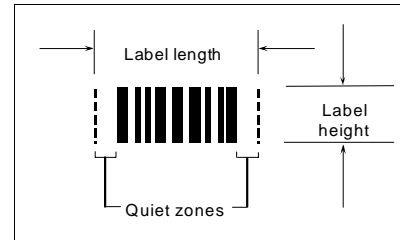

Figure A-8 Label Dimension
- **Scan Rate (SR)** is the number of scans per second (sps) that a given scanner is capable of emitting.
- **Scan Width (SW)** (picket fence formula only) is the width across the scan beam, at a given distance from the scanner, in which a label can be read.
- **Label Speed (LS)** is the distance per second that a label moves as it travels through the scan lines.
- **Label Length (LL)** (picket fence formula only) is the length of the longest printed label to be read plus the length of the quiet zones (figure A-8).
- **Label Height (LH)** (ladder formula only) is a measurement of the height of individual bars (figure A-8).